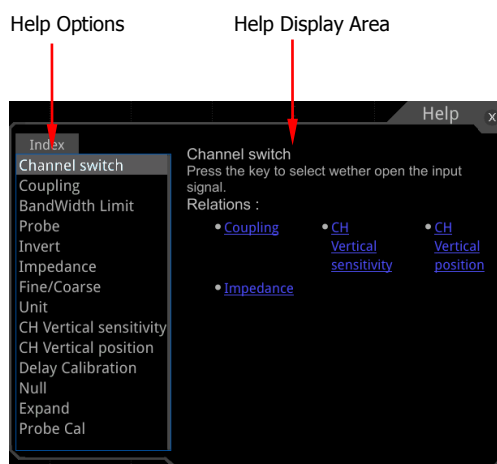

Figure 1-15 Help Information
2. Click **Content**, and then the help information is displayed on the screen, as shown in Figure 1-15. The help interface mainly consists of two sections. The left section lists "Help Options", and the right section is the "Help Display Area".